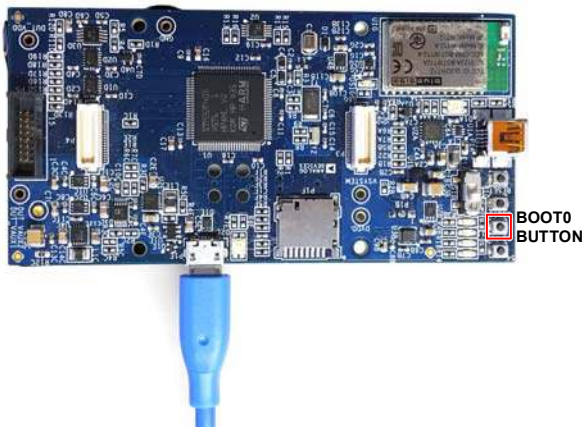

Figure 6. Micro USB Connection and **BOOT0** Button Used when Upgrading Firmware
2. Plug in a micro USB cable between the EVAL-ADPDUCZ and the PC with the power to the EVAL-ADPDUCZ turned off (see Figure 6).